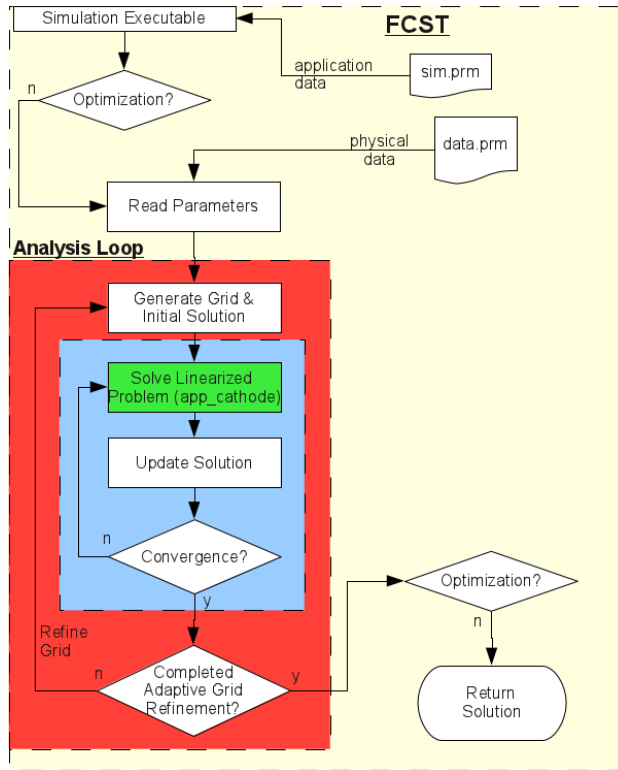

Figure 5.1: Schematic of Fuel Cell Analysis Code.
The main file already contains the path to the other files, so only this file is needed. Upon issuing this command OpenFCST will select the desired simulation to run, read the fuel cell parameters from the different files, and then solve the required finite element problem. The program flowchart is given in Figure 5.1. The output of the program is shown on screen and also recorded in a file, i.e., `logfile.log`.
- **solver method:** This entry can be used to add an additional loop during the solution stage after the analysis loop (see Figure 5.1).